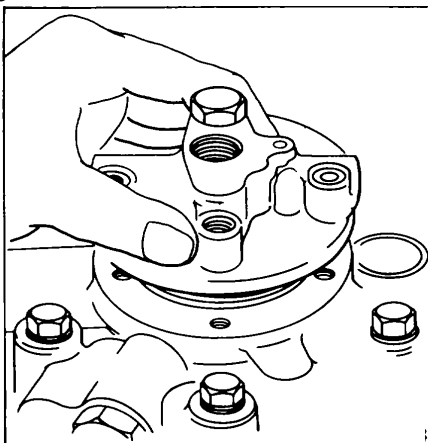

Figure 188.
C-6 Remove 3 hex bolts (50), 2 hex bolts (48), and 5 lock washers (47). Lift valve body (5) from motor cover (4) See Fig 188.